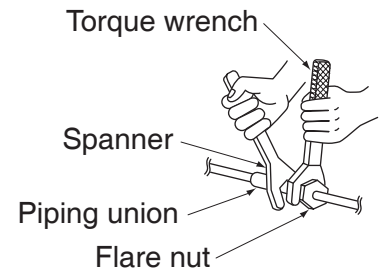

Fig. 12
- When connecting the pipings to the air conditioner, make sure to use a spanner and a torque wrench as shown in Fig. 12.